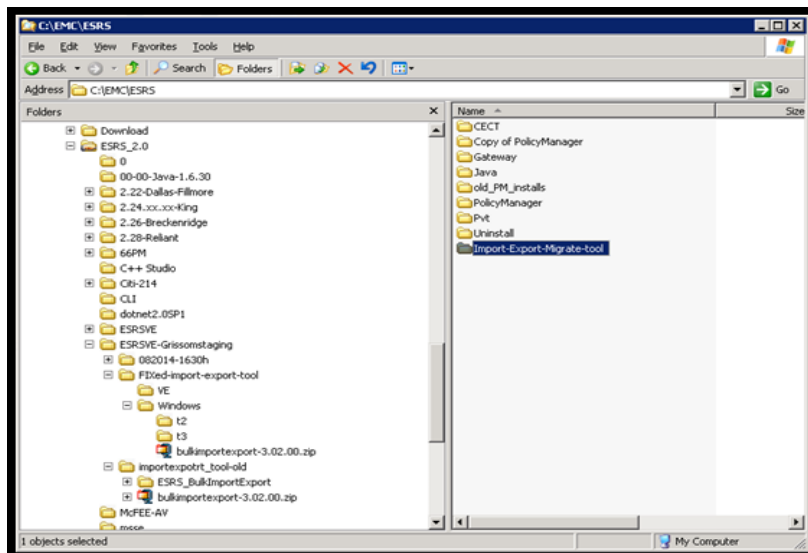

Figure 126 Creating a directory
3. Create a directory for the tool, as shown in Figure 126 on page 101.